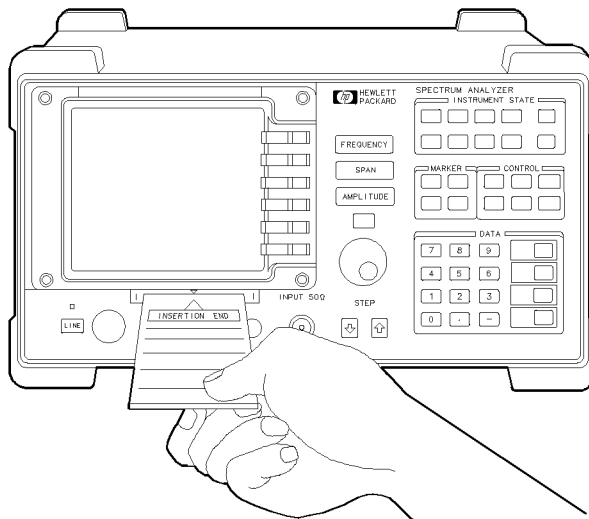

Figure 2.1. Inserting the Memory Card
2. Insert the card into the spectrum analyzer with the card's arrow matching the raised arrow on the bezel around the card-insertion slot. If the card has no arrow, insert the bright-metal end of the card face down into the analyzer's card-insertion slot. See Figure 2-1.